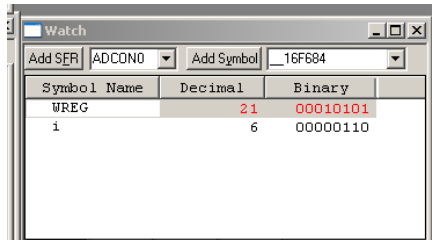

Fig 2.9: Changing the location of the storage of the answer received from adding the contents of WREG and file 'i'.
- f. Change the destination bit to **w**, rebuild, reset the simulator and note the change (Fig 2.9).